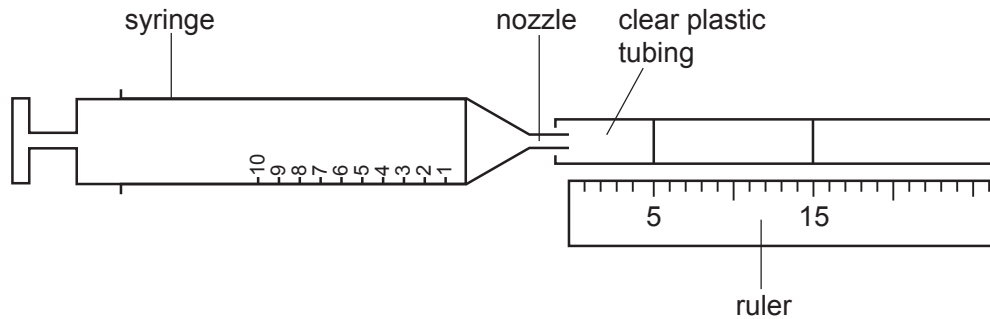

Fig. 1.1
1. Put clear plastic tubing onto the nozzle of a 10 cm³ syringe, as shown in Fig. 1.1.
2. Put two marks on the (plastic) tubing so that one mark is at a distance of 5 cm from the nozzle and the other mark is at a distance of 15 cm from the nozzle, as shown in Fig. 1.1.